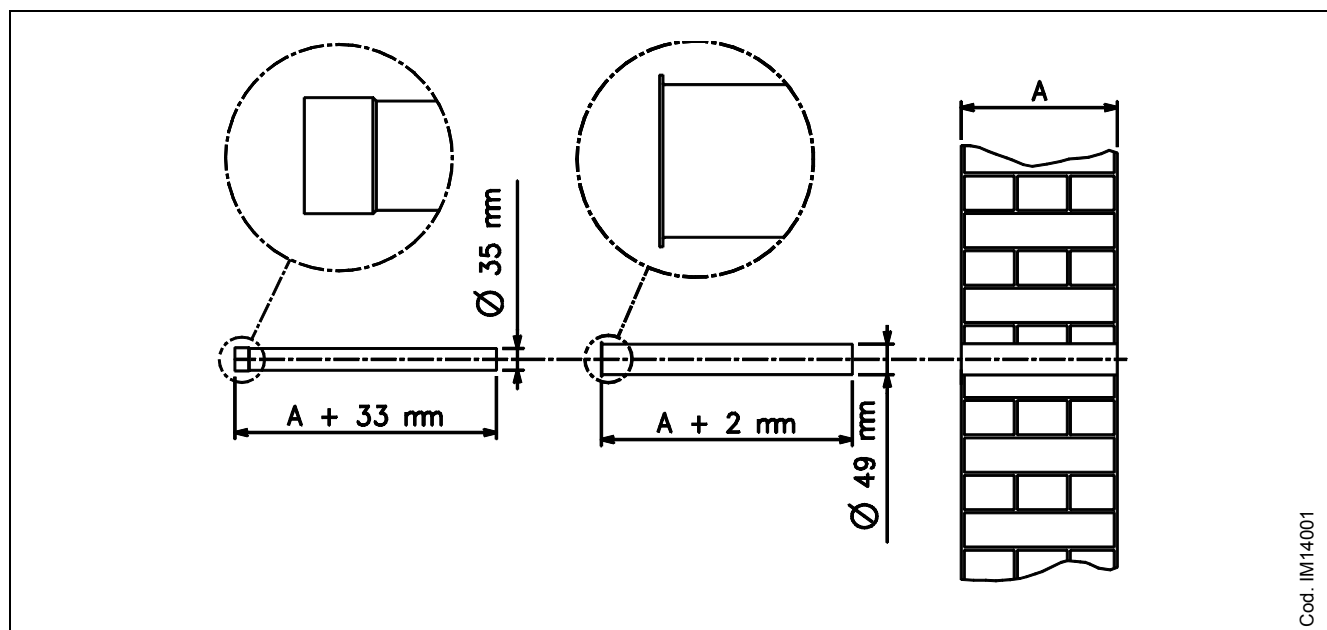

Figure 6 – PIPES CUTTING
3. Adjust the inlet and outlet flue length depending on the actual thickness of the installation wall, cutting the excess parts. To precisely determine the exact length see Figure 6.